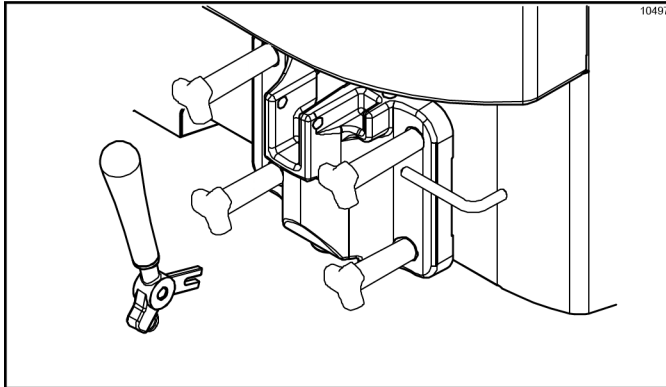

Figure 6-14
7. Slide the fork of the draw handle into the slot of the draw valve. Secure with the pivot pin. (See Figure 6-14.)